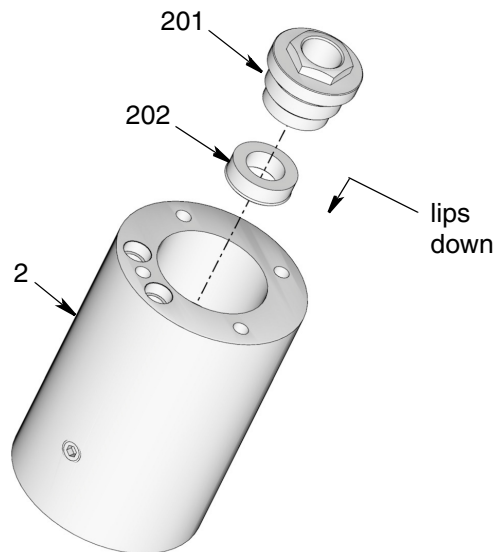

FIG. 34
1. Apply a thin layer of grease to the packing u-cup (202).
2. Use a flat, blunt-end tool to seat u-cup (202), with the lips facing down, into the pump adapter (2) (FIG. 34).
3. Install hex nut (201) inside pump adapter (2). Use a wrench to tighten nut securely (FIG. 34). Torque to 18-22 ft lbs (24.4-29.83 N.m)